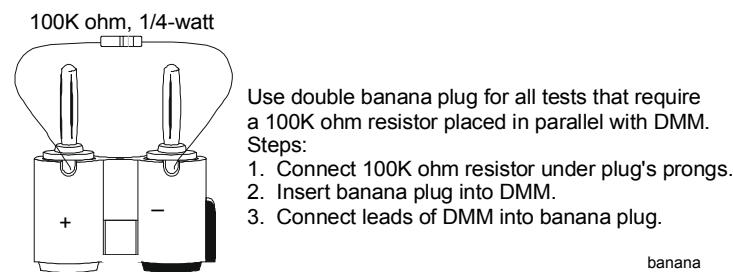

Figure 17: Double Banana Plug Used with 100K Ohm Resistor
- double banana plug (optional; shown in Figure 17; available from local electronics store or ITT Pomona Stock No. 34F856 or 34F845), for earth ground voltage tests